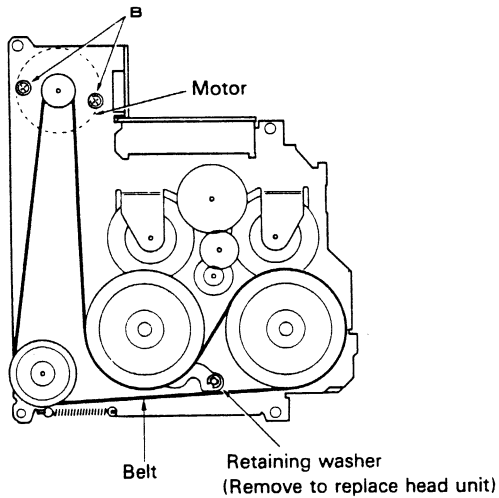

Fig. 2
2. Belt can be replaced as shown in Figure 2.
3. To replace the motor, remove the two screws labeled "B" in Figure 2.
1. Remove the head unit by removing the two retaining washers (Figures 2 and 4).